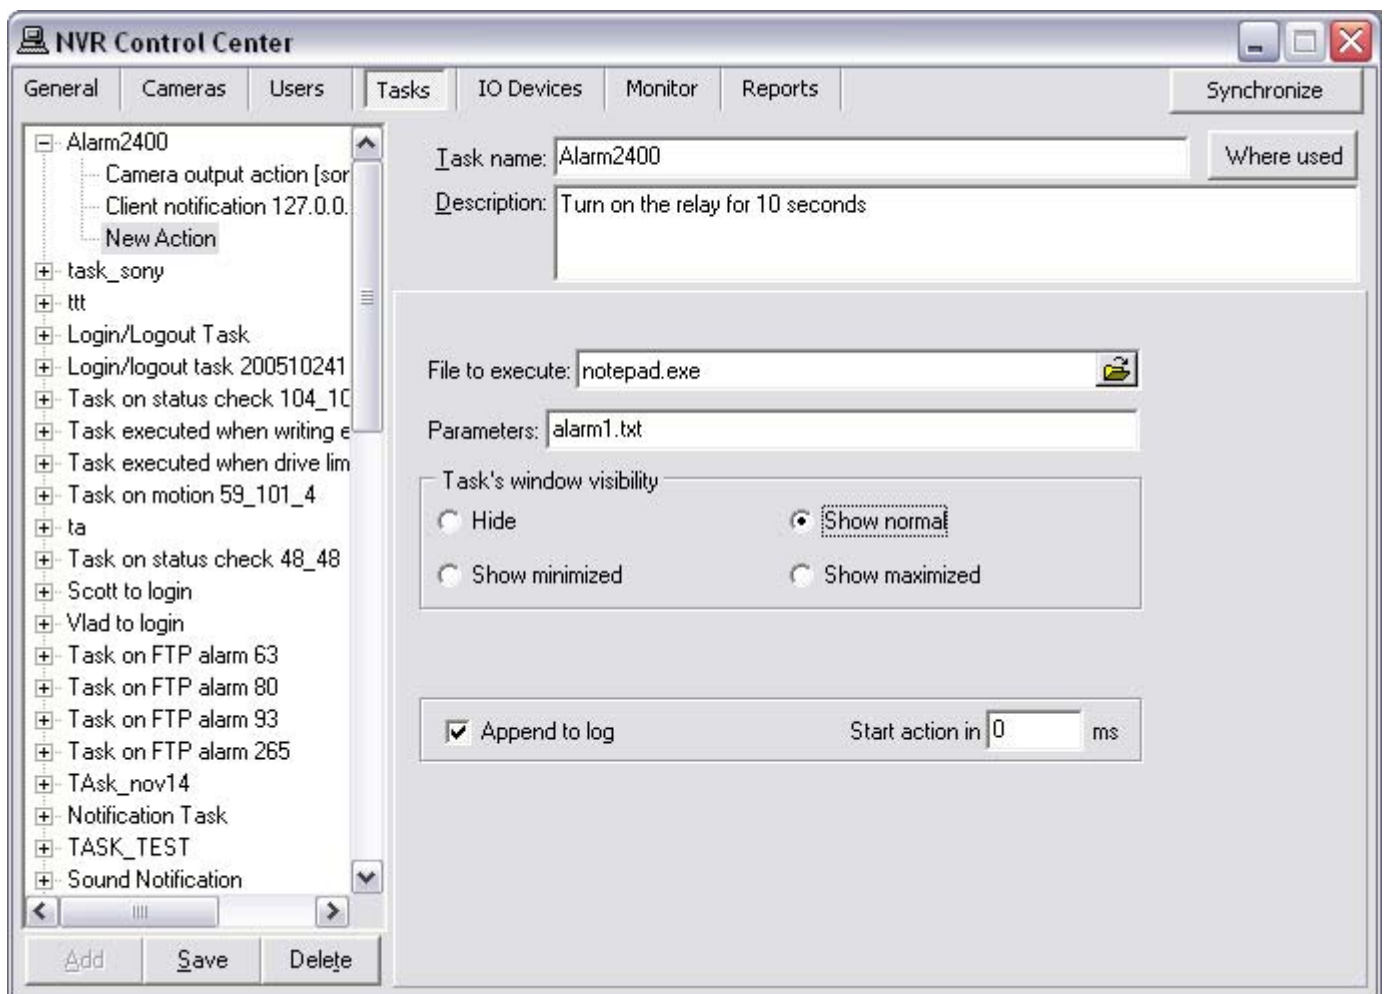

Fig 91. NVR Control Center — Tasks
1. Enter the program name in the **File to Execute** or press the browse button and browse to the directory containing the file (Fig 91).